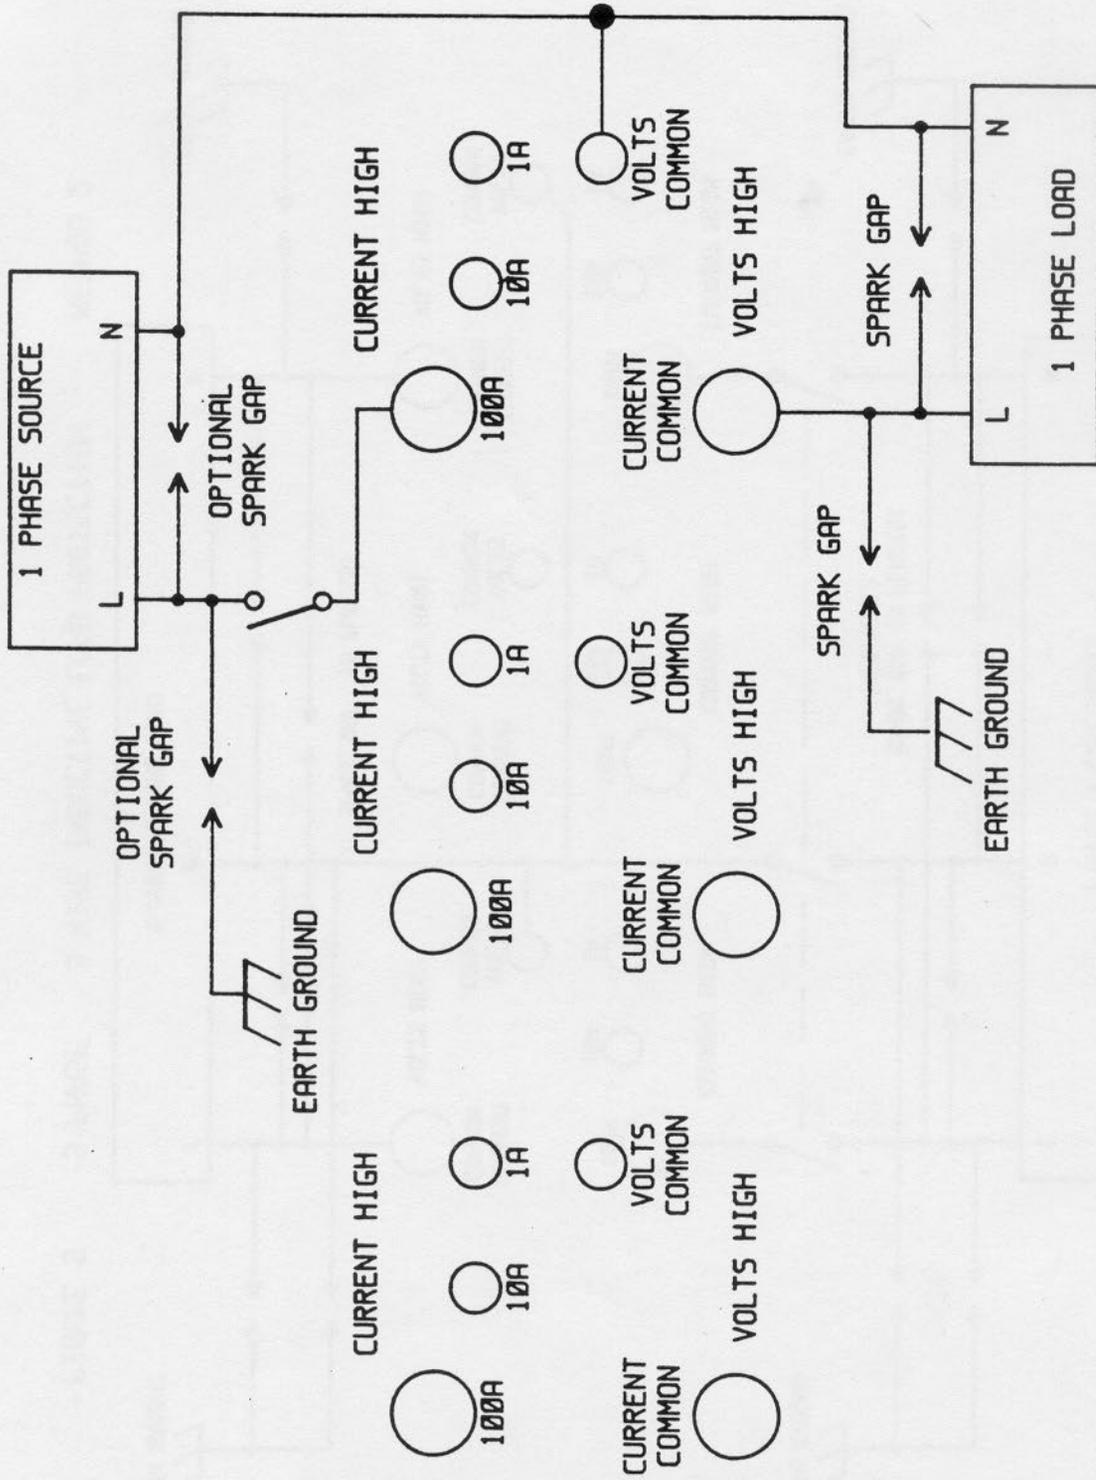

FIGURE 4 SINGLE PHASE INDUCTIVE LOAD PROTECTION METHOD 2
- Figure 4. Measuring Power Loss in Connecting Leads
not dependent on the operator. The spark gap(s) dissipate the energy from the inductive kickback. Figures 4, 5 and 6 detail this type of protection for single and three-phase connected loads. When the source is also inductive, e.g. a generator, additional spark gaps should be used. In all cases the spark gaps should be connected close to the load (source) and as far from the 2300 as practical.